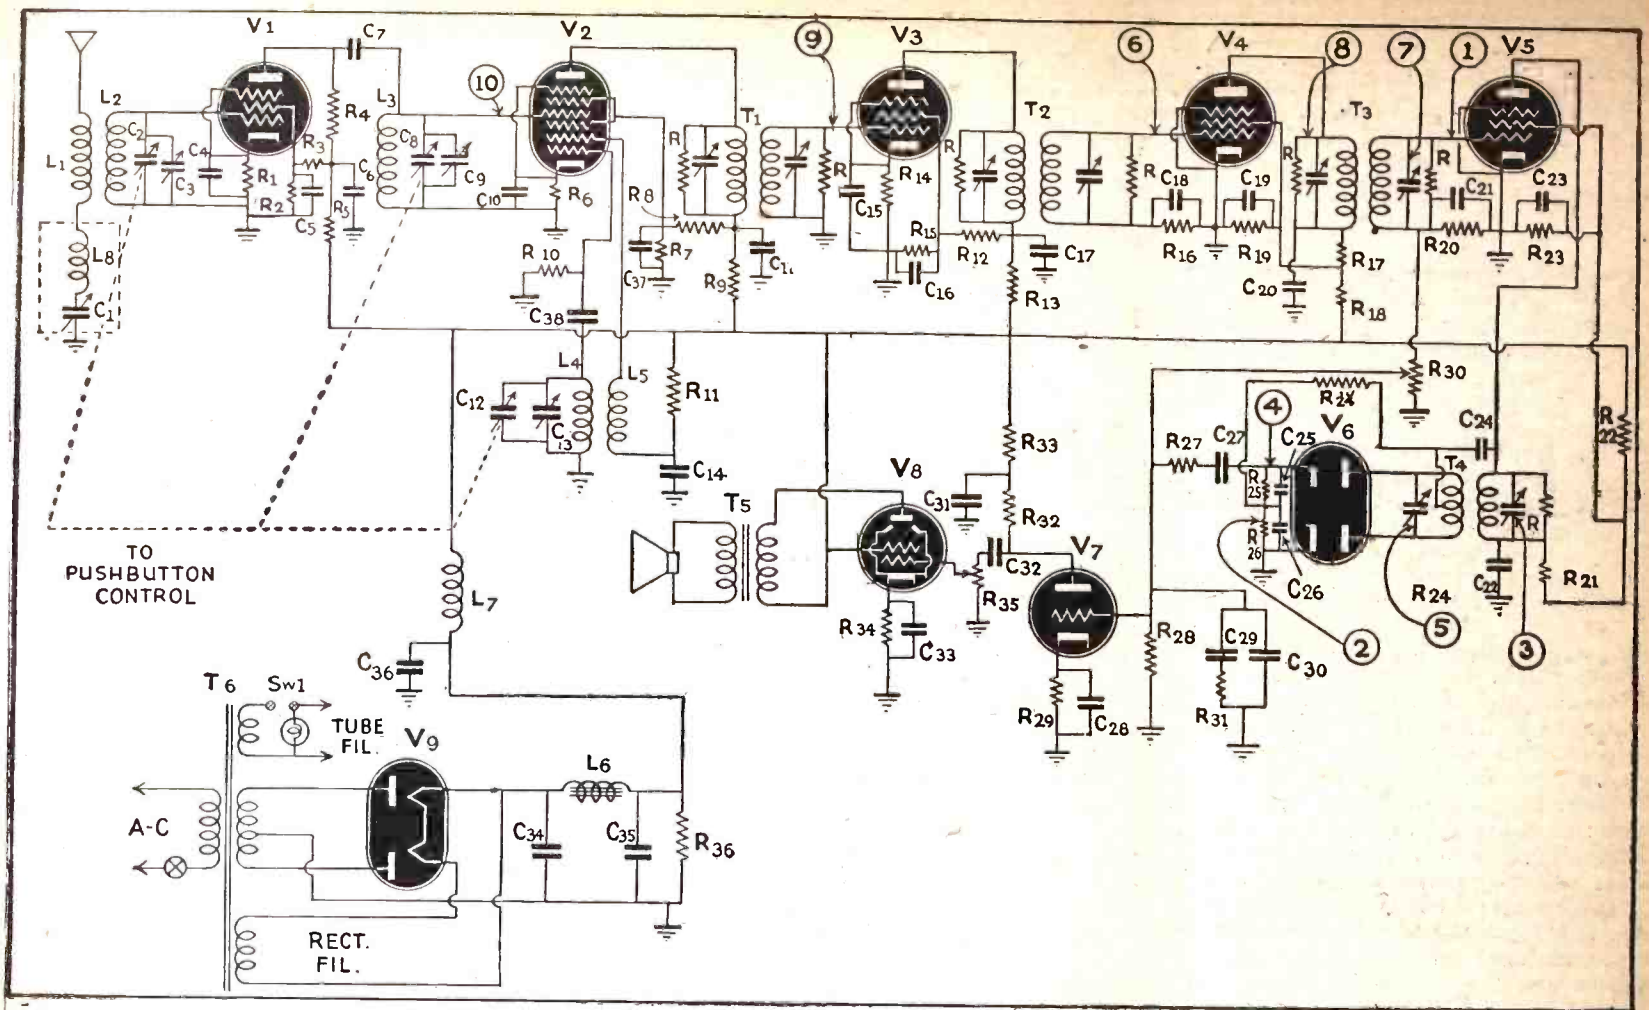

Fig. 1—The complete schematic diagram of a standard FM receiver. Several points referred to in the text are in numbered circles.
Thus, if in the block diagram of Fig. 1, the grid of the second I.F. stage had been grounded and the noise disappeared, and then when we grounded the grid of the first I.F. stage the noise persisted, we would have located the critical stage as the first I.F. amplifier. Apparently, we have saved much time, since we are now sure the noise is emanating somewhere between the grids of the first and second I.F. ampli-
Therefore, the system of signal substitution has found wide application among some trouble shooters. We know that each stage of any piece of equipment has a definite function. Furthermore, each stage handles a definite type of signal which is of a particular frequency (or band of frequencies), amplitude and wave form. The audio amplifier stages handle the frequencies of the audio spectrum, and the I.F. stage amplifies the intermediate frequency only. If the receiver, blocked in Fig. 1, is a broadcast receiver, and its intermediate frequency is 465 Kc., the R.F. amplifier will be tunable and will cover from 550 to 1700 Kc. The same goes for the mixer input circuit. The oscillator will generate a radio frequency signal and will be tunable from 1015 Kc. to 2165 Kc. The I.F. amplifier peaks at 465 Kc.
In Fig. 1 is shown the schematic of a conventional FM receiver including the circuits that were discussed in the preceding article. We will assume that the I.F. of this receiver is 3.5 Mc., and that it is push-button tuned. We will follow through all of the adjustment and maintenance steps in such a manner as to make them applicable to any other FM receiver. An itemized list of the parts used in this receiver is given in chart 1. The use of each component part in its respective circuit is included for the convenience of the reader.
- (b) Connect "hot" lead of signal generator to grid of 2nd limiter V5 through a .01 ufd. paper condenser. (Point 1 on Fig. 1.)
- (f) Connect the "hot" lead of the V.T. voltmeter to the negative side of R26 (point 2 on Fig. 1) and the "cold" lead to ground.
- (k) Disconnect the "hot" lead of the V.T. voltmeter from point 2 and connect it to point 4 on Fig. 1. You will now be reading the total D.C. voltage across R25 and R26.
- (l) Adjust the secondary trimmer (5) of T4 for zero voltage indication on the V.T. voltmeter.